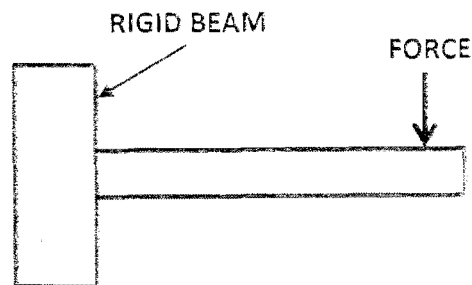

Fig. Q.3c
- (b) With the aid of an illustration, show how the strain gauges in Fig Q3.b would be mounted on the horizontal beam in Fig Q.3c in order to measure force. Show also how the strain gauges would be connected together the resistors to form the bridge circuit. (5 marks)